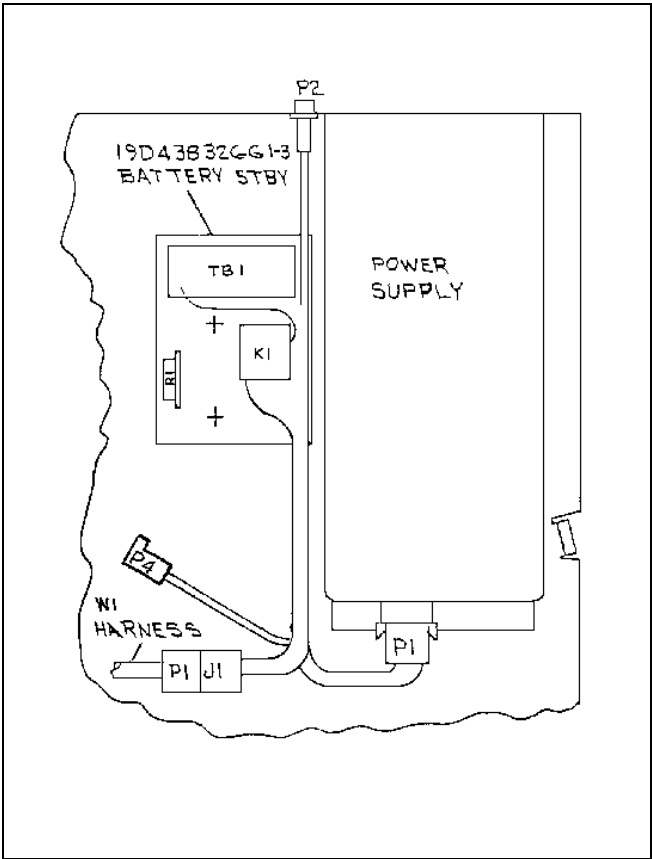

Figure 1 - Battery Standby Board
1. Mount the option circuit board to the station chassis adjacent to the station power supply (Refer to Figure 1).
- A. Cut the printed wire run from J3-3 to R97 (refer to Figure 1).
1. Mount the option circuit board to the station chassis adjacent to the station power supply (refer to Figure 1).